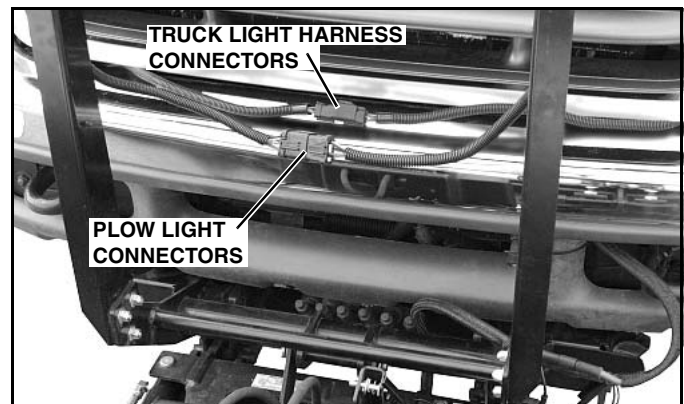

Figure 1-16
7. Unplug light harness connectors on truck, and disconnect plow light connectors, which had been plugged together for corrosion protection during storage (See Figure 1-16).